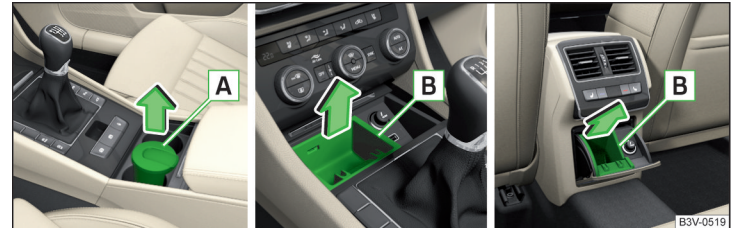

Fig. 131 Remove front ashtray / remove front ashtray insert / remove rear ashtray insert
- Hold the ashtray **A** (not by the lid) remove it in the direction of the arrow » Fig. 131.
- To remove the insert, open the ashtray fully, hold the insert in area **B** and remove in the direction of the arrow » Fig. 131.